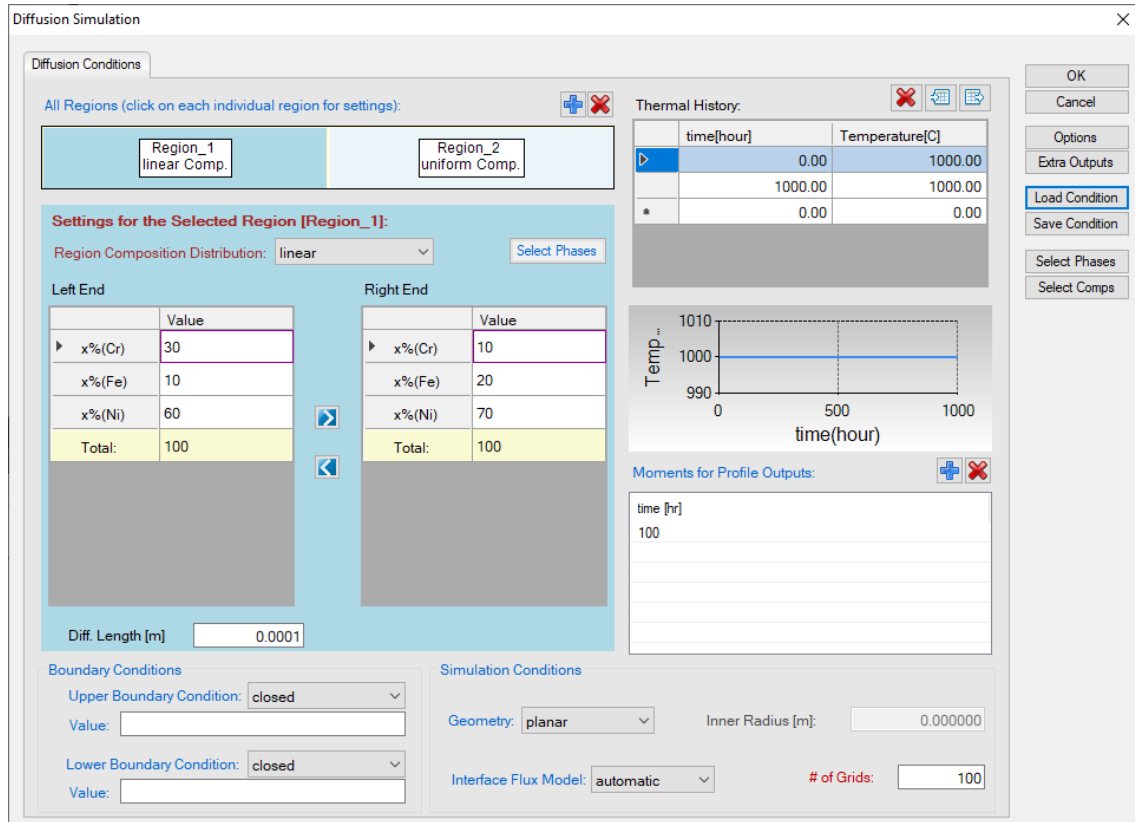

Figure 4.2.1: Setting of the simulation condition
- Click on "PanDiffusion->Diffusion Simulation" and set up the calculation condition as shown in Figure 4.2.1. First select Region Composition Distribution as "Linear", which means the composition in each region varies linearly from the left edge to the right edge. Click on Region_1 and set the composition of the left edge as 30Cr-10Fe-60Ni (at%), and that of the right edge as 10Cr-20Fe-70Ni (at%); then click on Region_2 and set the composition of the left edge as 10Cr-20Fe-70Ni (at%), and that of the right edge as 30Cr-10Fe-60Ni (at%) (not shown in Figure 4.2.1).